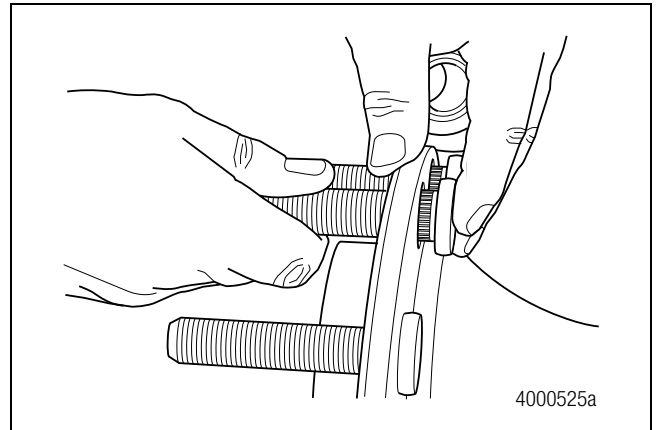

Figure 6.43
- Position the new studs into the hub. Align the stud knurls with the impressions in the hub stud hole. Figure 6.43.